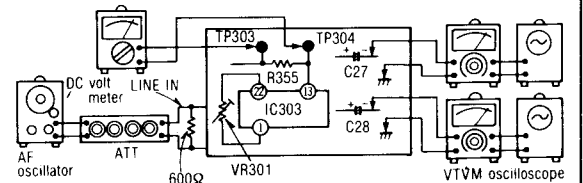

Fig. 17
1. Make the connections as shown in fig. 17 and apply 1kHz -27 dB signal from LINE IN, and set the noise reduction selector to dbx tape position.